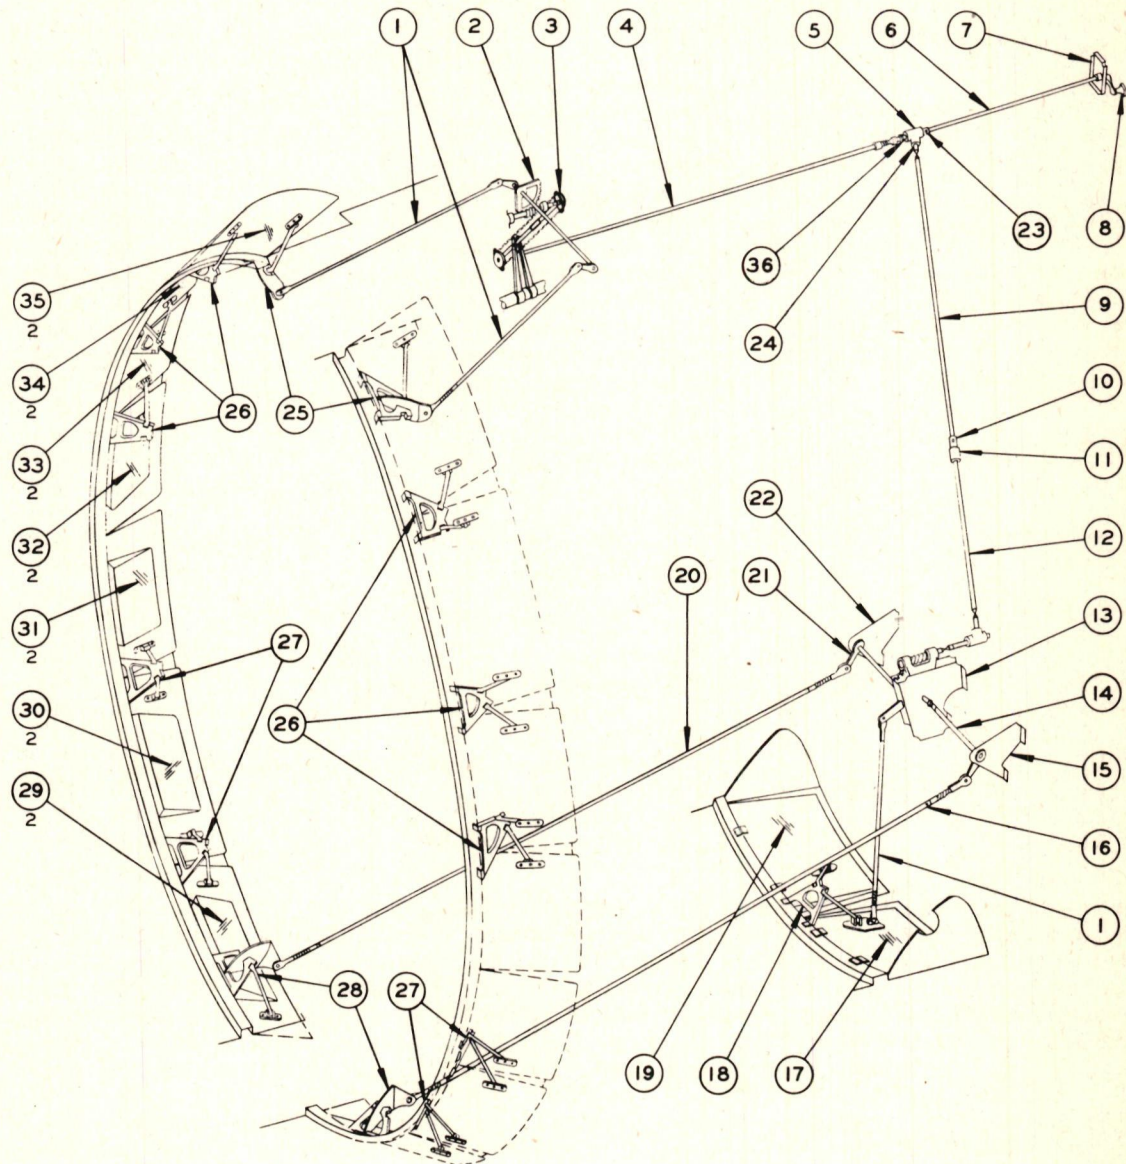

Figure 6-XIII - Engine Cowl Flaps and Controls
The cowl flap actuating mechanism is shown on fig. 6-XIII. Clockwise turning opens the flaps and counterclockwise turning closes them. The cowl flap control action is purely mechanical through torque tubes, gears, and sprocket drives. Due to the simplicity of this arrangement, the operation should be evident.
c. Carburetor Air Heat. - The temperature of the incoming air to the carburetor is controlled by a door in the forward part of air scoop. The position of this door in the air scoop is controlled by the knob on the left side of the instrument panel through a push-pull tube assembly as shown on fig. 6-XIII. When the knob is in the "DIRECT" (cold) position, the door is down, flush with the bottom of the air scoop permitting air to flow into the carburetor from the passage in the top of the cowl. When the knob is pulled outward the "ALTERNATE" (hot) position, the door is raised up, cutting off air from the passage in the top of the cowl and drawing in heated air from around the cylinders, from the opening in the bottom of the air scoop.